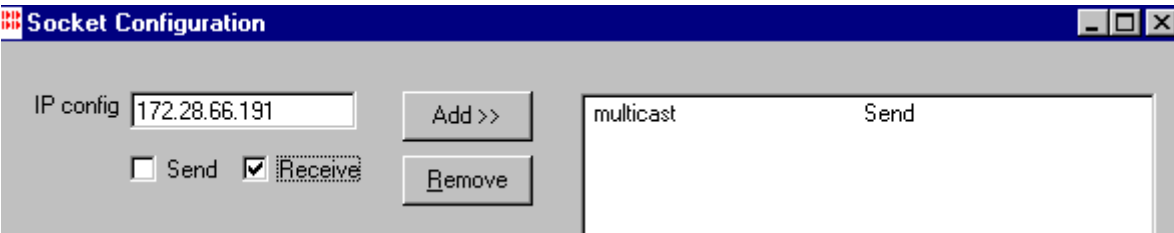

Figure 447. Adding an Entry for EH2
- b. Enter a check in the Receive check box, and make sure the Send box is unchecked. This configuration is shown in Figure 447.